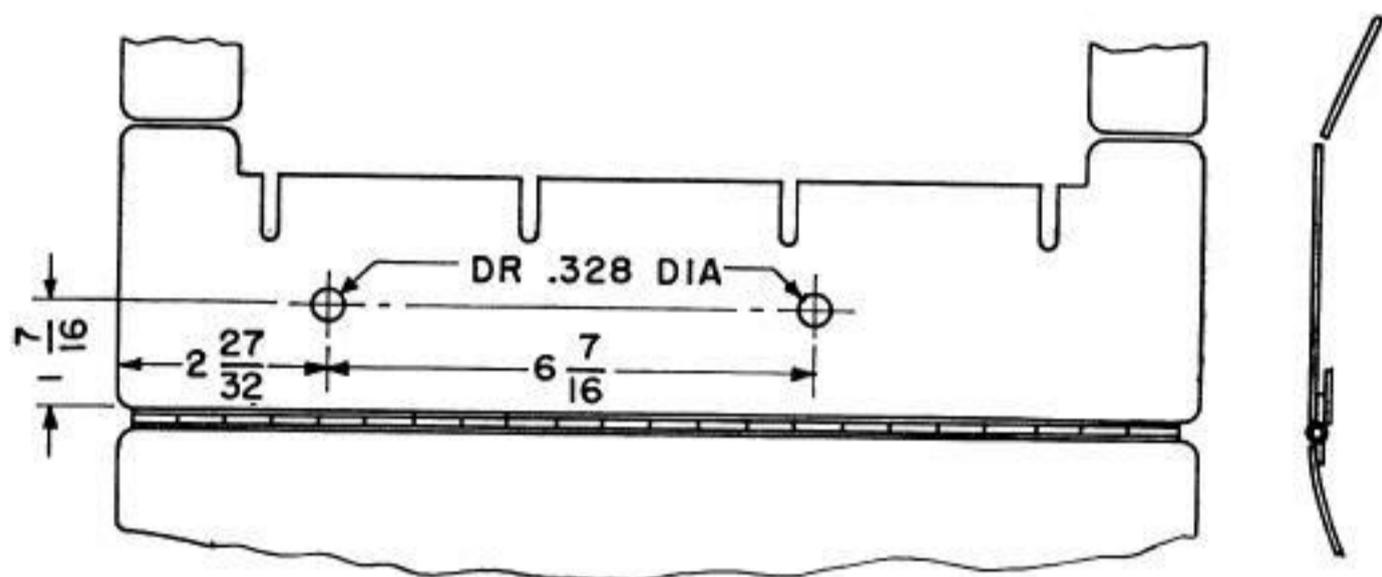
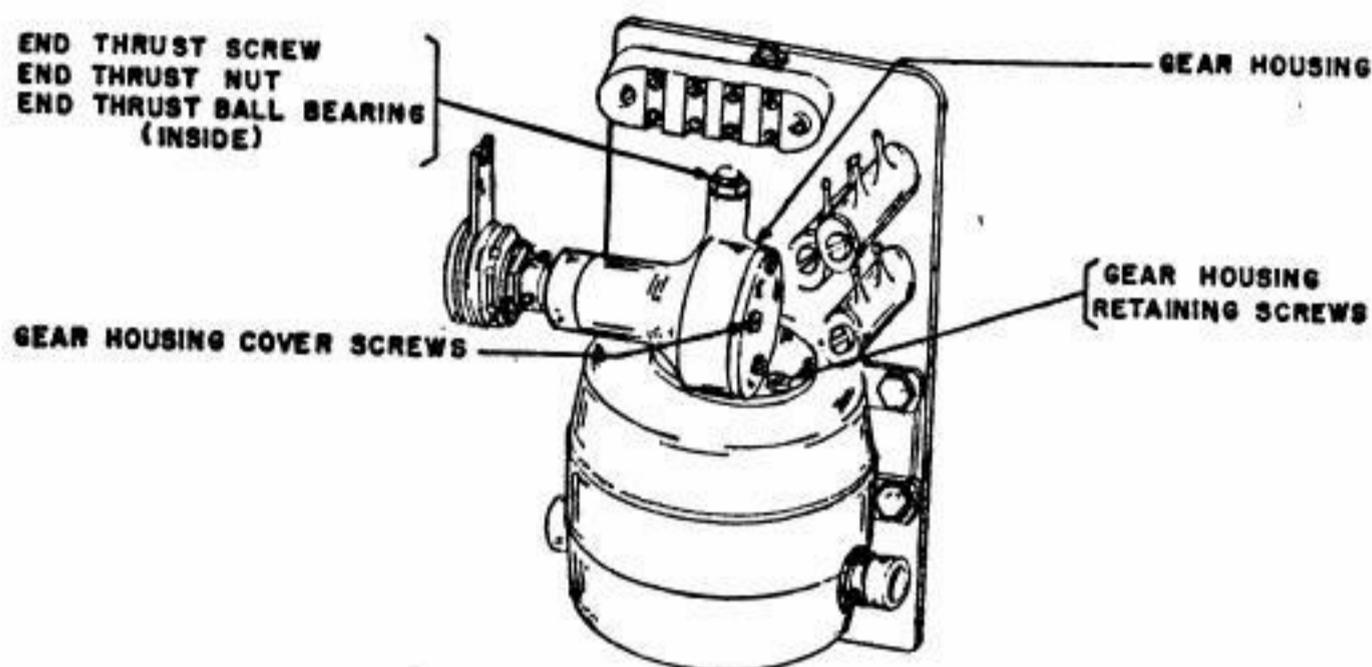

Fig. 1—15 Teletypewriter Cover—Layout of Holes
Fig. 4—Gear Housing Assembly
- (b) To revise Figs. 1, 2, and 3 and to add Figs. 4 and 5.
- (1) The 15 teletypewriter cover on which the paper winder is to be mounted must be drilled in accordance with Fig. 1.
- (2) In the drilled holes, secure the TP3900 bushings, using the nuts, washers, and lockwashers. Care should be taken not to tighten the nuts too much, as excessive tightening may distort the bushings.
- (3) Mount the paper winder on the top of the cover, with the motor to the left, by means of the two thumbscrews that are furnished; and before tightening the thumbscrews, position the paper winder so that the spindle lines up with the paper as it leaves the platen. Care should be taken in tightening the thumbscrews, as excessive tightening may possibly buckle the mounting plate and bind the paper spindle.
- (4) Feed the paper under the paper-winder slack bar and then fold back the leading corners of the paper to form a dart and insert it in the paper-spindle slot. Turn the spindle by hand one turn in the direction in which the paper
- (1) Disconnect the plug from the power supply.
- (2) Remove the paper winder cover by removing the screw from the rear of the paper winder and backing off the other two screws. (The cover has two slotted mounting holes.)
- (3) Depress the latch and remove the paper-winder spindle from its mounting to allow easier installation of the new parts.
- (4) Remove the four screws, flat washers, and lockwashers which hold the motor to the bracket, taking care not to loosen any electrical connections.
- (5) Remove the end thrust-screw, nut, and ball bearing from the gear housing, shown in Fig. 4, taking care not to mislay the bearing. **Fig. 4**
(6) Remove the gear housing from the motor-end bell by removing the three screws, shown in Fig. 4, taking care not to damage or mislay the gasket. Then remove all excess grease from the pinion and motor-end bell. **Fig. 4**
(7) Remove the gear housing cover by removing the three screws, shown in Fig. 4, taking care not to damage or mislay the gasket. Then remove all grease from the gear housing. **Fig. 4**
(8) Drive out and discard the pins that hold the pinion to the motor shaft and the fiber gear to the gear housing shaft. Remove and discard both the pinion and the fiber gear.